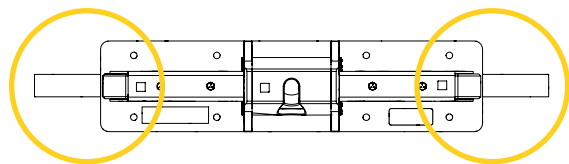

Figure 28: Application of the arrow labels PRT-008-117
13. Ensure that there are no gaps between the four (4) AnchorMed Floor Mount components and the floor.
16. Apply an arrow label PRT-008-117 on each side of the Floor Anchor centered with the Quick-release foot controls (Figure 28).